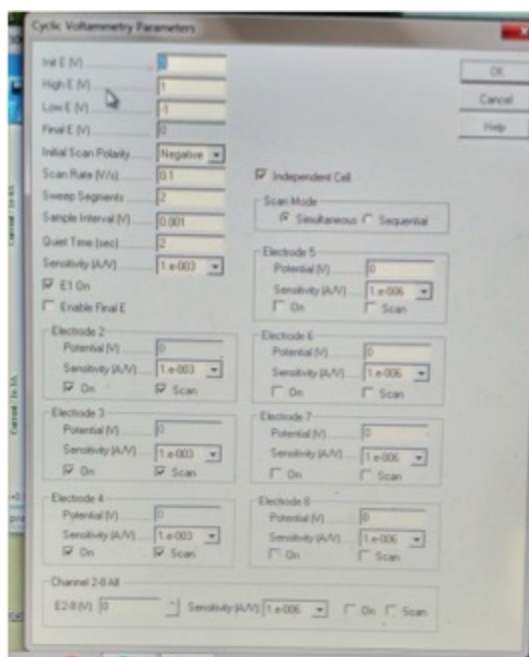

Figure 5. Software settings for CV analysis.
- Set up software settings for a cyclic voltammetry (CV) sweep as for Figure 5. A cyclic voltammetry sweep at the beginning generates a “before” profile of the electrochemically active substances in the experiment, for comparison to after.
- Perform 3 x CV runs (Software settings in Figure 5). Save these after each run.